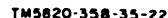

Figure 20. 1f. cathode follower V509B, simplified schematic diagram.
back from detector V506B through V504. The secondary winding of T502 also feeds 455-kc signals to if. cathode follower V509B, which supplies 50-ohm, 455-kc signals to external circuits (para 20, fig. 20). The output signal developed across the L513 of T503 is connected to detector V506B. Capacitor C530 bypasses if. signals to ground. In the if. subchassis with MOD numbers 1 and higher on Order No. 363-Phila-54, serial numbers 600 and higher on Order No. 08719-Phila-55, and all if. subchassis on Order No. 14-Phila-56, transformers T501, T502, and T503 are stagger-tuned to increase bandwidth. When one of these transformers is replaced in any subchassis, stagger-tuning procedures should be followed (para 72).
20. If. Cathode Follower V509B (fig. 20)